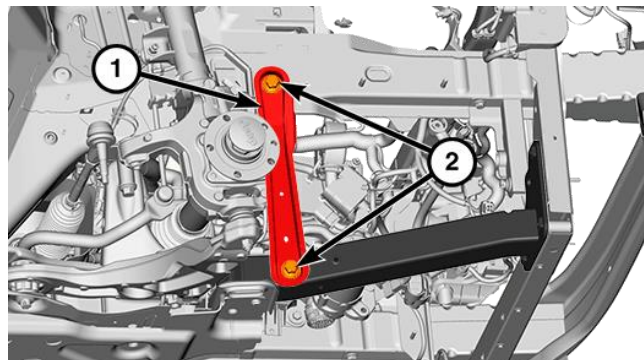

Figure 21 – Vertical Bracket
26. **If equipped,** Remove the bolts (2) then remove the vertical bracket (1) from both sides of the vehicle (Figure 21).